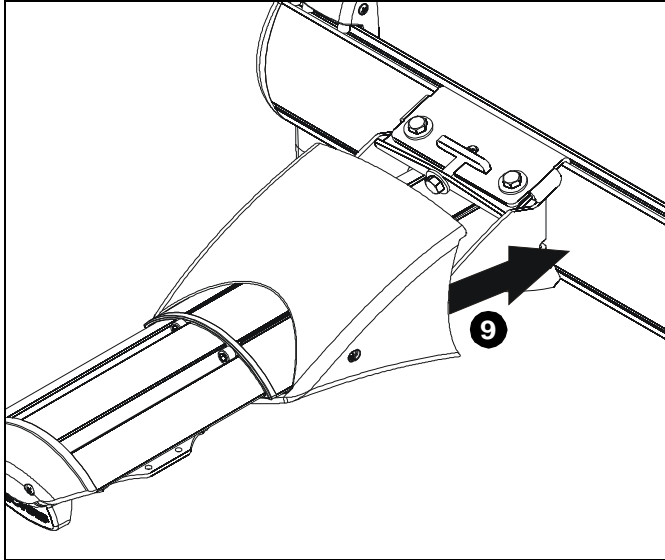

Figure 27
9. Slide outer cover of mount (A) back against mounting bracket. (See Figure 27)